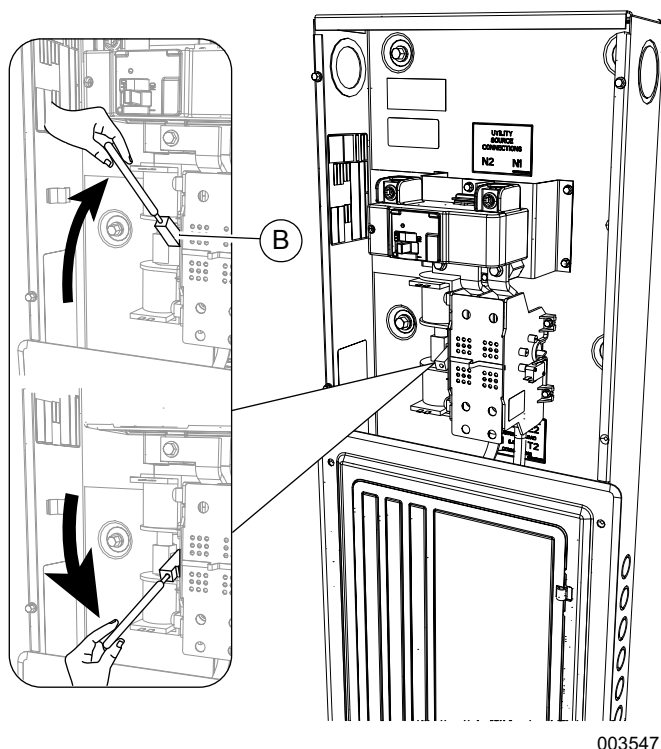

Figure 4-2. Manual Operation
See **Figure 4-2**. A yellow manual handle is shipped with the transfer switch and is located in the bag containing the owner's manual. A retaining clip (A) inside the transfer switch enclosure stores the manual handle when not in use.
3. Note position of transfer mechanism main contacts by observing the movable contact carrier arm as shown in **Figure 4-2**, with the upper cover removed. The top of the movable contact carrier arm is yellow to be easily identified.
See **Figure 4-2**. Before proceeding, verify the position of the switch by observing the position of manual operation handle. If the handle is UP, the contacts are closed in the NORMAL (UTILITY) position, no further action is required. If the handle is DOWN, proceed with Step 1.
See Figure 4-2. Before proceeding, verify the position of the switch by observing the position of the manual operation handle. If the handle is DOWN, the contacts are closed in the GENERATOR (STANDBY) position. No further action is required. If the handle is UP, proceed with Step 1.